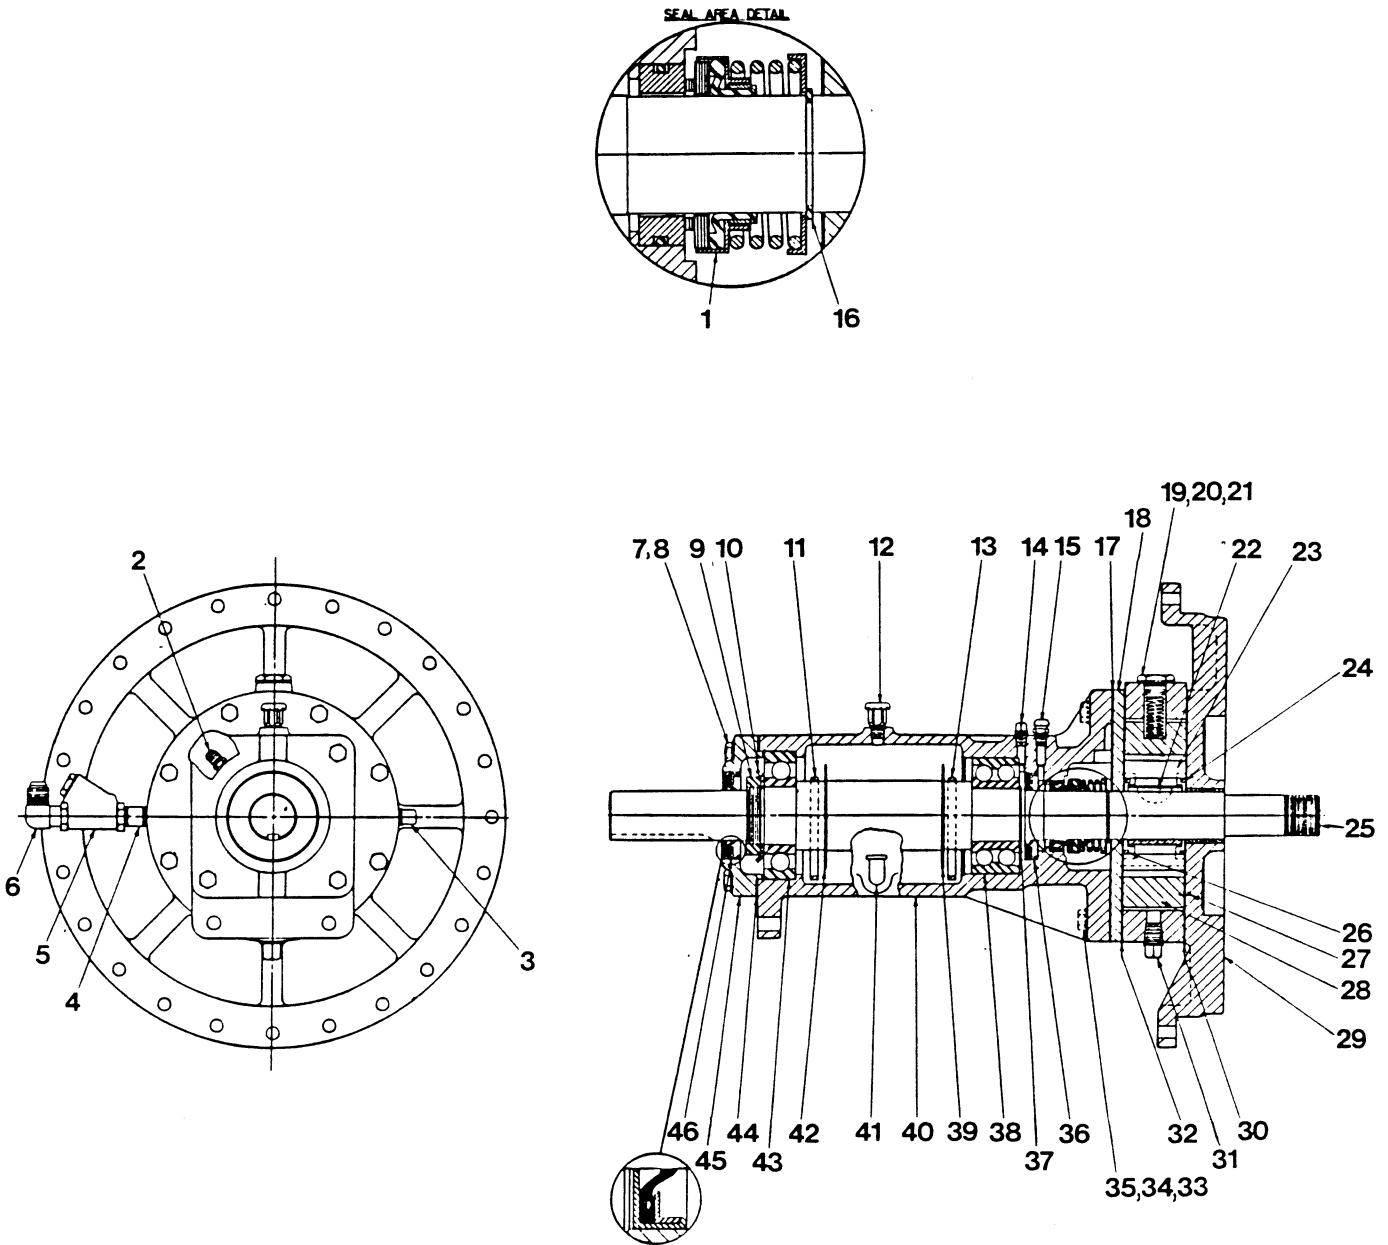

Figure 2. Bearing Housing Assembly R12922-02
Before attempting to service the pump, disconnect or lock out the power supply to prevent accidental start up. Close all valves in the suction and discharge piping and drain the pump casing and group grind by removing the drain plugs (13, Figure 1, and 31, Figure 2). Clean and reinstall the drain plugs.
Disconnect the suction and discharge piping from the pump casing. Disconnect the priming tube assembly (11) from the system check valve (not shown) and the priming tube check valve (5, Figure 2). Remove the male elbow, check valve, and pipe nipple (4, 5 and 6, Figure 2) from the bearing housing (40, Figure 2). Dis-
(Figure 2)
(Figure 2 and 4)